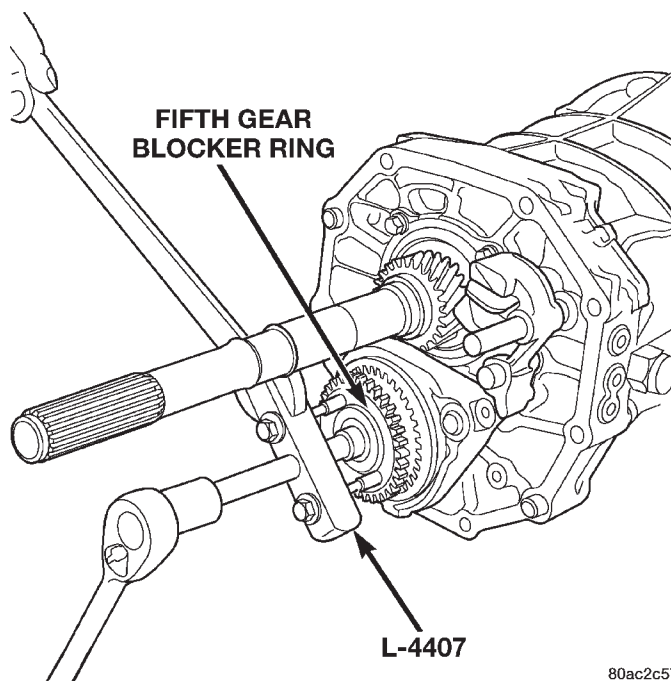

Fig. 52 Remove Fifth Gear Blocker Ring
(4) Remove fifth gear blocker ring from countershaft assembly with Puller L-4407 (Fig. 52).